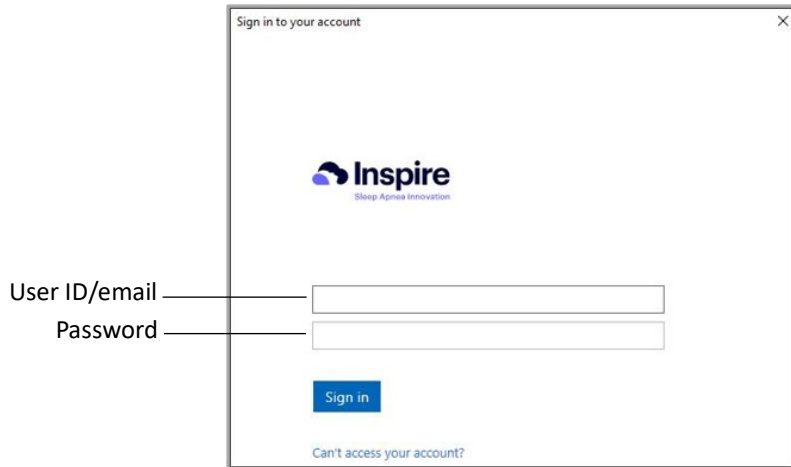

Figure 3-3. Inspire SleepSync User Login Screen
- f. Log in with your Inspire SleepSync user ID, which is an email address, and password (Figure 3-3). Then select **Sign in**.